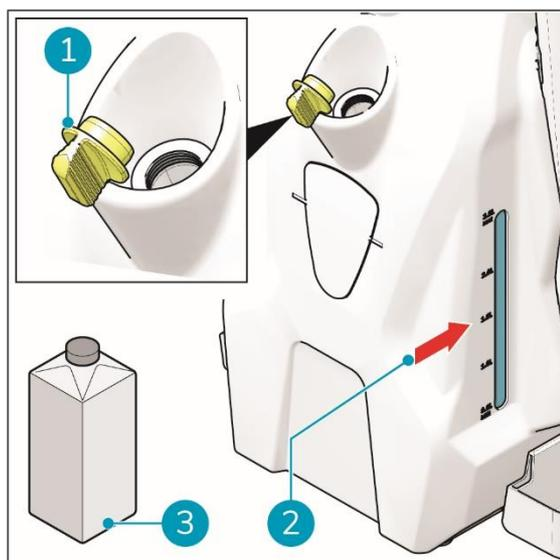

Figure 13
- pull the safety pin at the back of the i-gum® (Figure 13, pos 1);
- pull the gas cartridge holder (Figure 13, pos 4) at the same time.
2. Make sure the gas valve (Figure 13, pos 2) is turned off.
- push the cartridge upwards into the first cartridge slot (Figure 13, pos 3);
- turn the cartridge clockwise (right) to tighten it (Figure 13, pos 3).
- push the cartridge upwards into the second cartridge slot (Figure 13, pos 3);
- pull the safety pin at the back of the the i-gum® (Figure 13, pos 1);
- close the gas cartridge holder (Figure 13, pos 4) at the same time.
1. Remove the yellow stopper (Figure 13, pos 1).
2. Pour in the i-gum[®] gum remover solution (Figure 13, pos 3) while checking the fluid indicator (Figure 13, pos 2) on the side.
3. Replace the yellow stopper (Figure 13, pos 1) and make sure it seals tight.